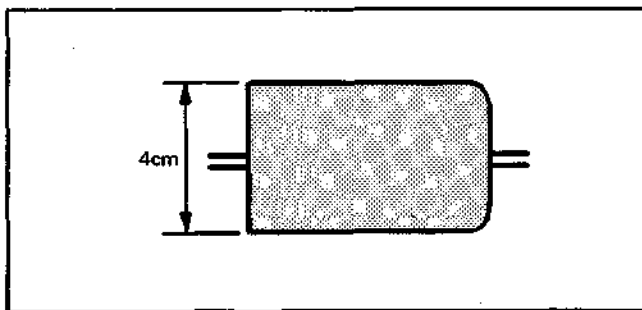

Fig. 3-15
9) Turn No. 6 guide clockwise and make the RF output waveform entrance portion 4cm. (Fig. 3-15)